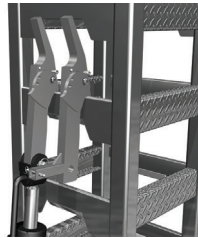

fig. 4.23
- 3- Make sure that the engine is running at full throttle and that the cylinder hook and the secondary hook are properly engaged (fig. 4.17 and fig. 4.18) and on the same mast rung (fig. 4.23, p. 62). Failure to engage the hooks correctly can cause the platform to drop.
Make sure the cylinder hook and the secondary hook are properly engaged (fig. 4.17 and fig. 4.18, p. 61) and on the same mast rung (fig. 4.23) before and after raising or lowering platform. Failure to engage hooks correctly can cause the platform to drop.